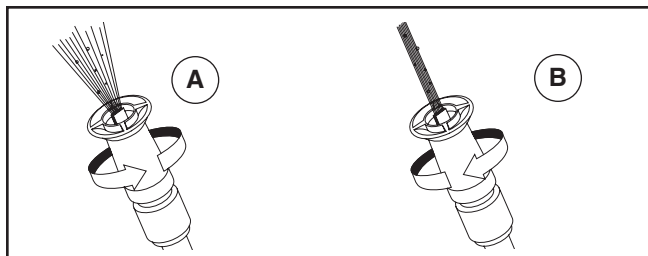

Figure 15: Adjusting the nozzle for spray pattern
- Twisting nozzle adjusts spray pattern from a fan pattern (A) to a narrow pattern (B) (Figure 15).